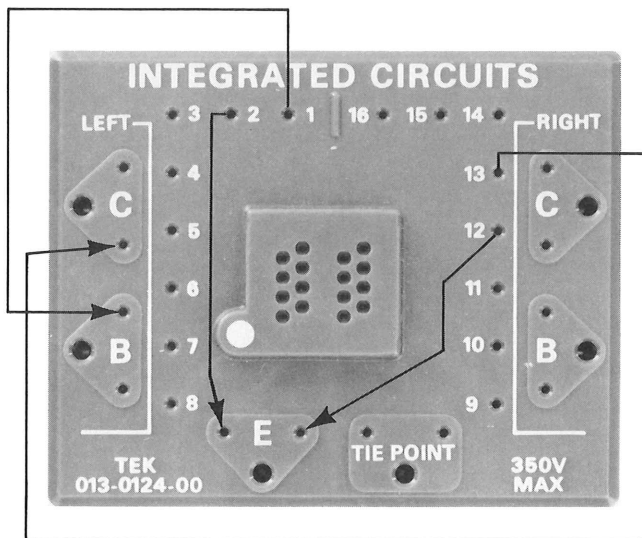

FIGURE 2.
2. Connect four patch cables to the integrated circuit socket adapter as shown in Figure 2.